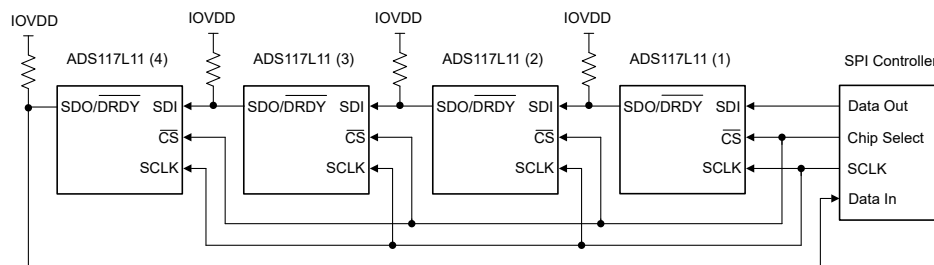

Figure 8-36. Daisy-Chain Connection
Figure 8-36 illustrates four devices connected in a daisy-chain configuration. The SDI of ADS117L11 (1) connects to the host SPI data out, and SDO/DRDY of ADS117L11 (4) connects to the host SPI data input. The shift operation is simultaneous for all devices in the chain. After each ADC shifts out the conversion data, the data of SDI appears on SDO/DRDY to drive the SDI of the next device in the chain. The shift operation continues until the last device in the chain is reached. The SPI frame ends when $\overline{\text{CS}}$ is taken high, at which time the data shifted into each device is interpreted. The SDO/DRDY pin must be programmed to data output-only mode.
Figure 8-38 shows the detailed input data sequence for the daisy-chain write register operation of Figure 8-36. 32-bit frames for each ADC are shown (16 bits of data, with the STATUS and CRC bytes enabled). Command operations can be different for each ADC. The read register operation requires a second frame operation to read out the register data.
Figure 8-39 illustrates the clock sequence to read conversion data from the device connection in Figure 8-36. This example illustrates a 24-bit output frame (16-bits of data, with the CRC byte enabled). The output data of ADC (4) is first in the sequence, followed by the data of ADC (3), and so on. The total number of clocks required to shift out the data is given by the number of bits per frame $\times$ the number of devices in the chain. In this example, 24-bit output frames $\times$ four devices result in 96 total clocks.